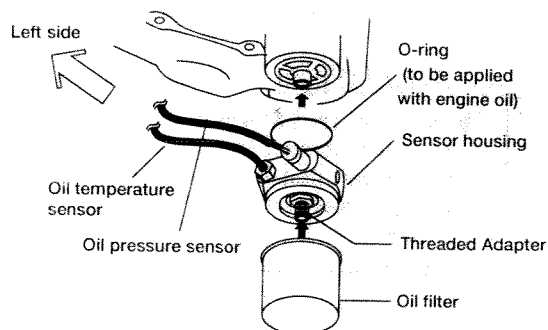

Figure 3-5
5. Lightly apply engine oil to the O-ring of the sensor housing. (Figure 3-5)
6. Insert the threaded adapter into the sensor housing and secure the sensor housing to the engine by tightening the threaded adapter (be sure sensors are facing the left side of the vehicle). (Tightening torque $20 \pm 5 \text{ N} \cdot \text{m}$ ($14.8 \pm 3.7 \text{ ft} \cdot \text{lb}$)). Then, reinstall the oil filter. (Figure 3-5) To reinstall the oil filter, first gently screw the oil filter into the sensor attachment using your hand. When you feel that the filter cannot be screwed in any more using the same force, further tighten up the filter by about one turn.